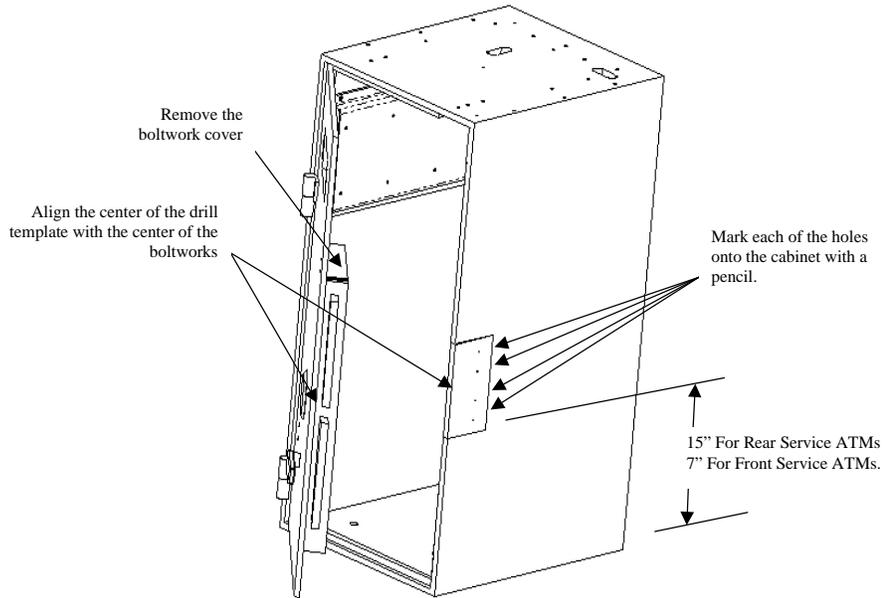

Figure 1. Attaching the Drill Template.
2. For the 9621 and 9661 ATMs, slide the drill template over right side of the cabinet so that the center of the drill template is aligned approximately with the center of the boltworks. For all other vaults, align the drill template so that the bottom of the template is approximately 7" from the bottom of the cabinet. With a pencil, mark each of the four holes onto the right side of the cabinet. See Figure 1.